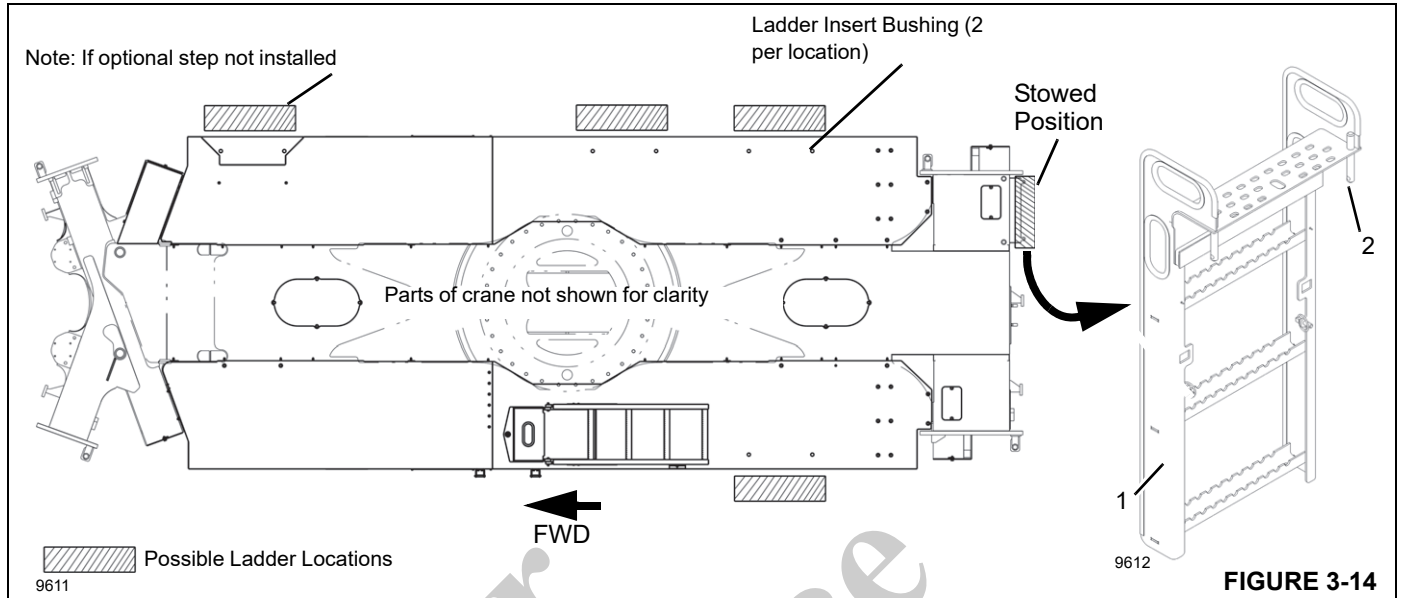
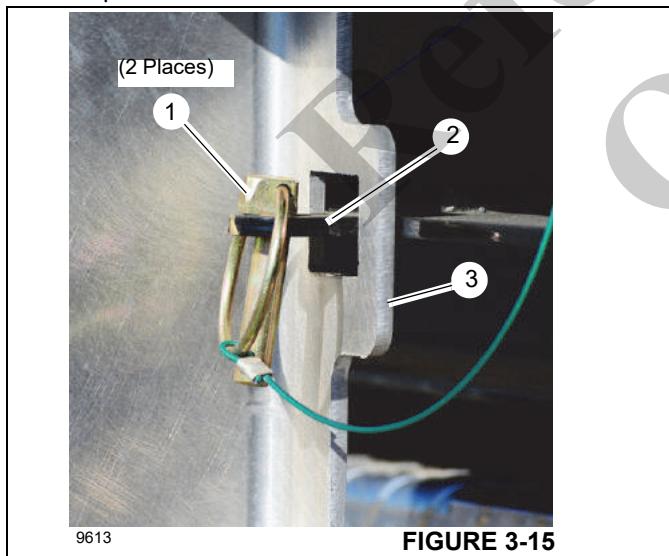

FIGURE 3-14
FIGURE 3-15
Use the movable ladder (1, Figure 3-14) stowed on the right rear bumper to access different areas of the decking. In the stowed position, use the ladder to access to the rear of the crane and the hydraulic tank and hoist area of the superstructure.
crane. Figure 3-14 shows the possible locations. The ladder must be stowed in the rear bumper position and secured to the bumper with lynch pins prior to transport.
1. Remove the lynch pins (1, Figure 3-15) from brackets (2).
2. Using the handles, lift the ladder so the ladder pins (2, Figure 3-14) are removed from the holes in the rear bumper.
1. Select the location to install the ladder. See Figure 3-14 for locations.
2. Using the handles, lift the ladder over the decking so the ladder pins (2) can be inserted in deck bushings.
3. Insert the ladder pins (2) in the bushings in the deck. Be sure the ladder pins are inserted securely in the bushings before using the ladder.
1. Lift and remove the ladder pins (2, Figure 3-14) from the bushings in the deck.
2. Lift the ladder and install the ladder pins (2) in the bushings in the top of the rear bumper.
3. Install the lynch pins (1, Figure 3-15) in the brackets (2) to secure the ladder (3) to the rear bumper.